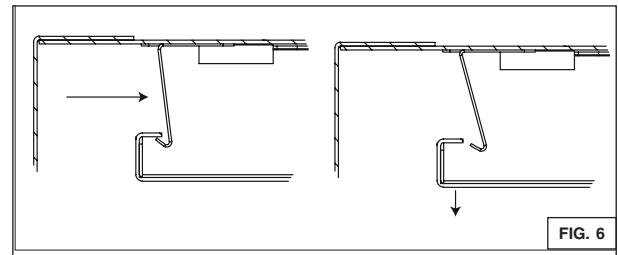
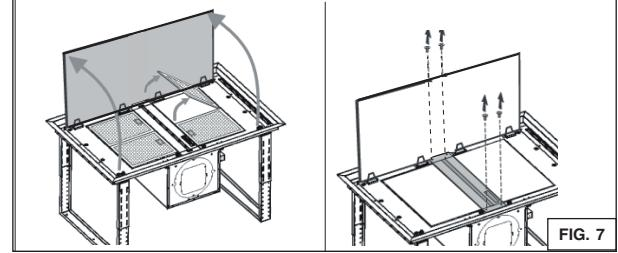

FIG. 6
FIG. 7
1. Push in lock tabs (2) on the ends of perimeter panel. See FIG. 6.
2. Open the panel and remove the mesh filters. See FIG. 7.
3. To ease access for blower installation, remove the central panel by unscrewing the 3/16 x 1/4" screws. See FIG. 7.
Re-install the aluminum mesh filters and central panel as needed (See FIG. 7). Make sure lock tabs are back in place once installation is done (See FIG. 6).